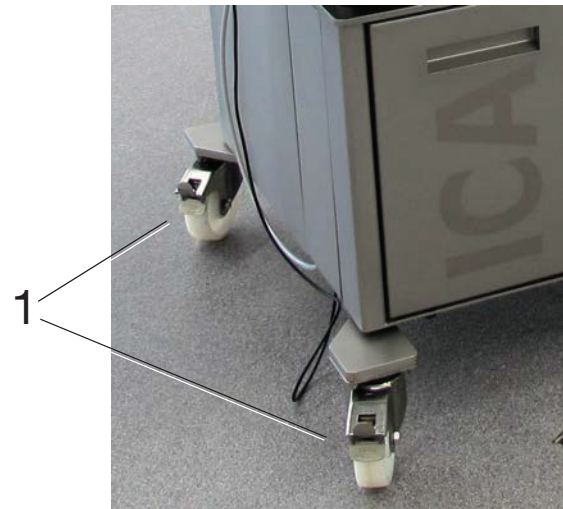

Fig. 3-1 1 Parking brakes on the swivel castors
- Release the parking brakes on the swivel castors (1, Fig. 3-1).
- At the installation site, immediately lock the parking brakes (1, Fig. 3-1) on both swivel castors.